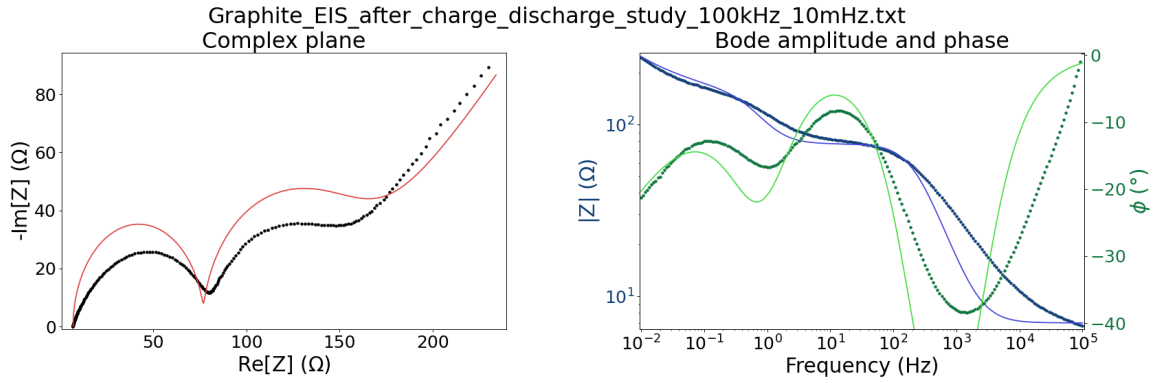

Figure 26: C||Li half-cell spectrum after tuning n_0 and Q_0 .
9. Now, the CPE exponent n_0 should be adjusted to match the angle of the low-frequency line and Q_0 should then be adjusted to roughly match its length, resulting in Figure 26. The parameters are those in Figure 27.